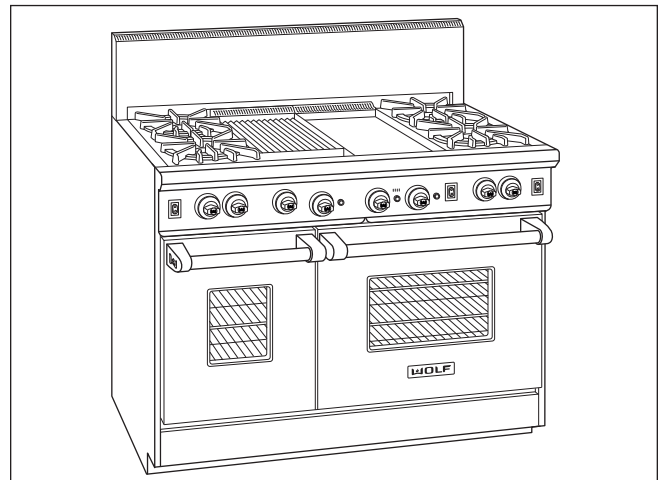

Figure 2. Installed Riser (48'' Range with 10'' Riser shown)
5. To attach riser to unit, first remove the top screw, one on each side on back of unit. Then, lower support angles into spaces provided at the top, back of unit. Make sure the flues and range back panel are inside of riser. When positioned correctly, the riser should be flush with the top of range (See Figure 2).